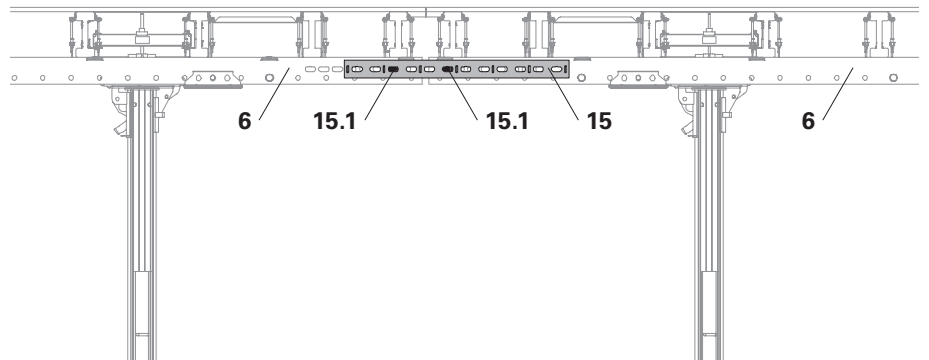

Fig. A2.09
2. Insert Coupling VKZ 99 (15) from below between the two Steel Walers SRU U120 (6).
3. Insert the Wedge KZ (15.1) into the designated longitudinal holes and secure. (Fig. A2.09)